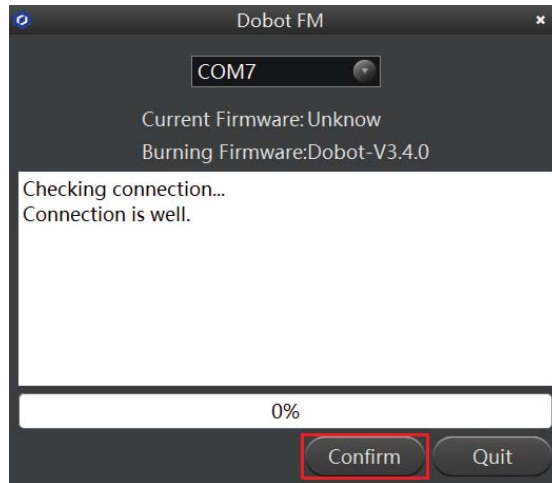
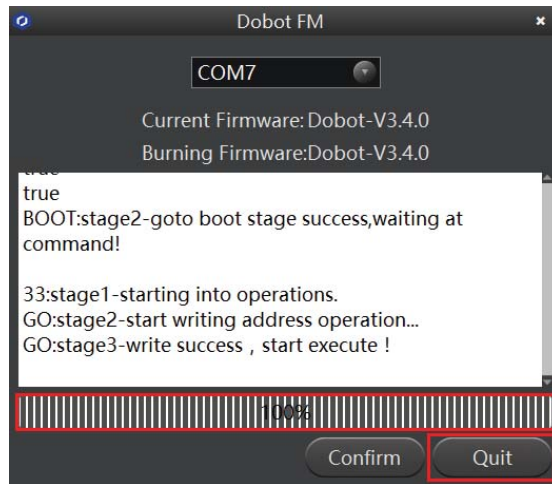

Figure 5.88 Click Confirm
Figure 5.89 The firmware upgrade is successful
3. Click **Confirm** to upgrade the Dobot firmware, as shown in Figure 5.88. When the upgrade process bar shows 100%, and a short beep sound is heard, it means that the firmware is upgraded successfully, as shown in Figure 5.89. In this case, the LED indicator turns from red to green. Then click **Quit** to exit.